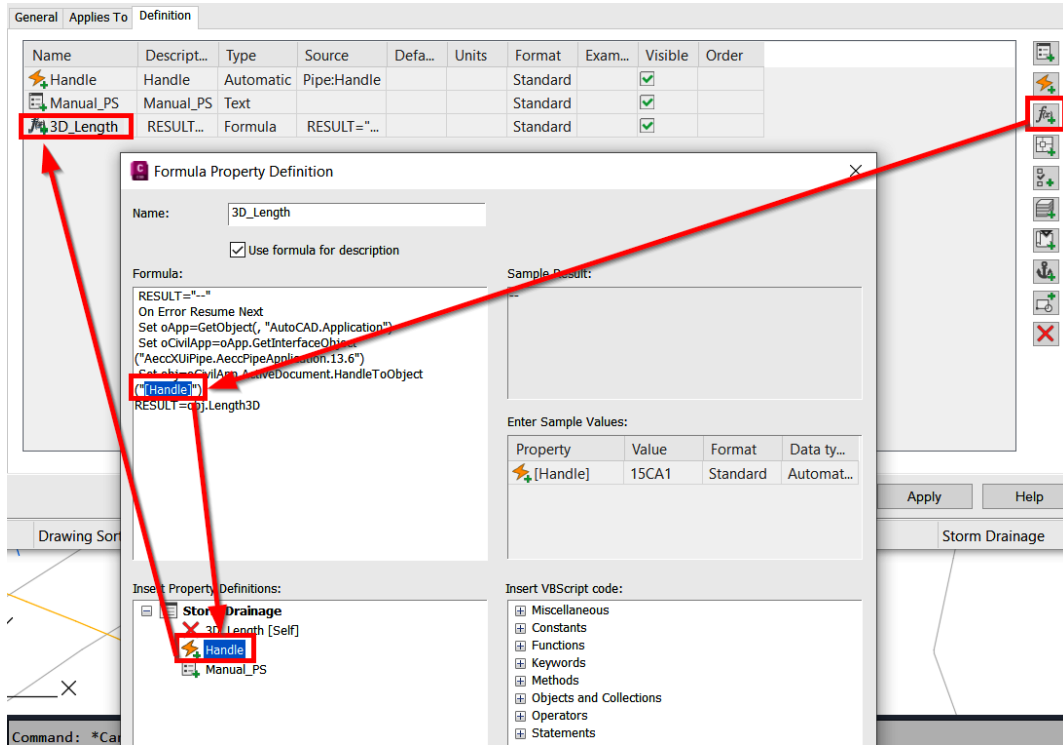

Figure 10.12 – Create a formula property set
8. Then, double-click the **Storm Drainage Handle Automatic** property definition we just created in the **Insert Property Definition** section in the lower left-hand corner of the dialog box (refer to *Figure 10.12*).
9. Click **OK** and the **3D\_Length** formula will appear in your **Storm Drainage Property Set** display (refer to *Figure 10.12*):